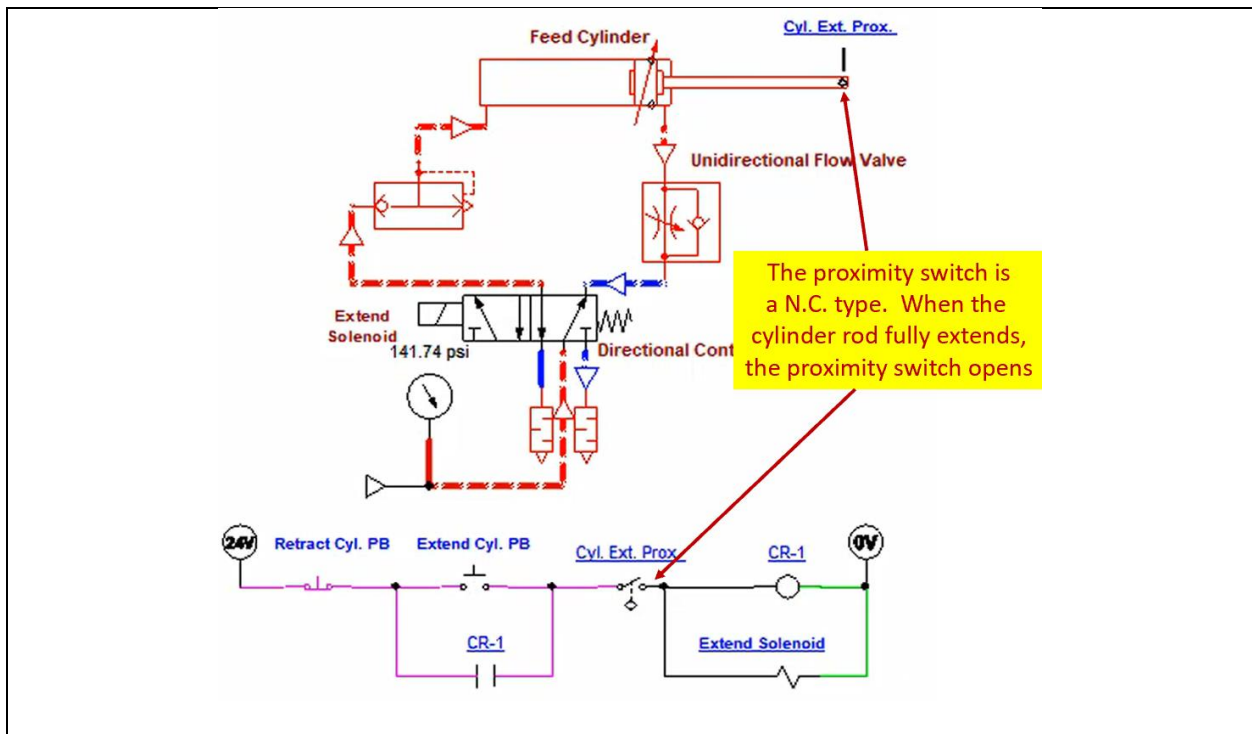

Figure 2. The proximity switch of Circuit 1.
4. Notice in Figure 2, that when the cylinder rod is fully extended, the proximity switch is actuated, which opens the proximity switch in the electrical circuit which deenergizes the Extend Solenoid.